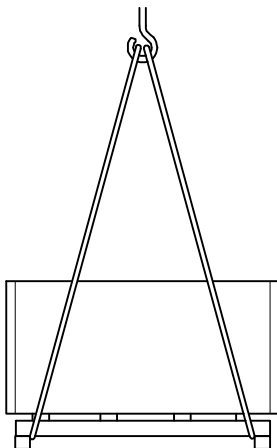

Fig. 7
1. Fasten ropes, belts or multiple-point suspension gear to the pallet Fig. 7 accordingly.